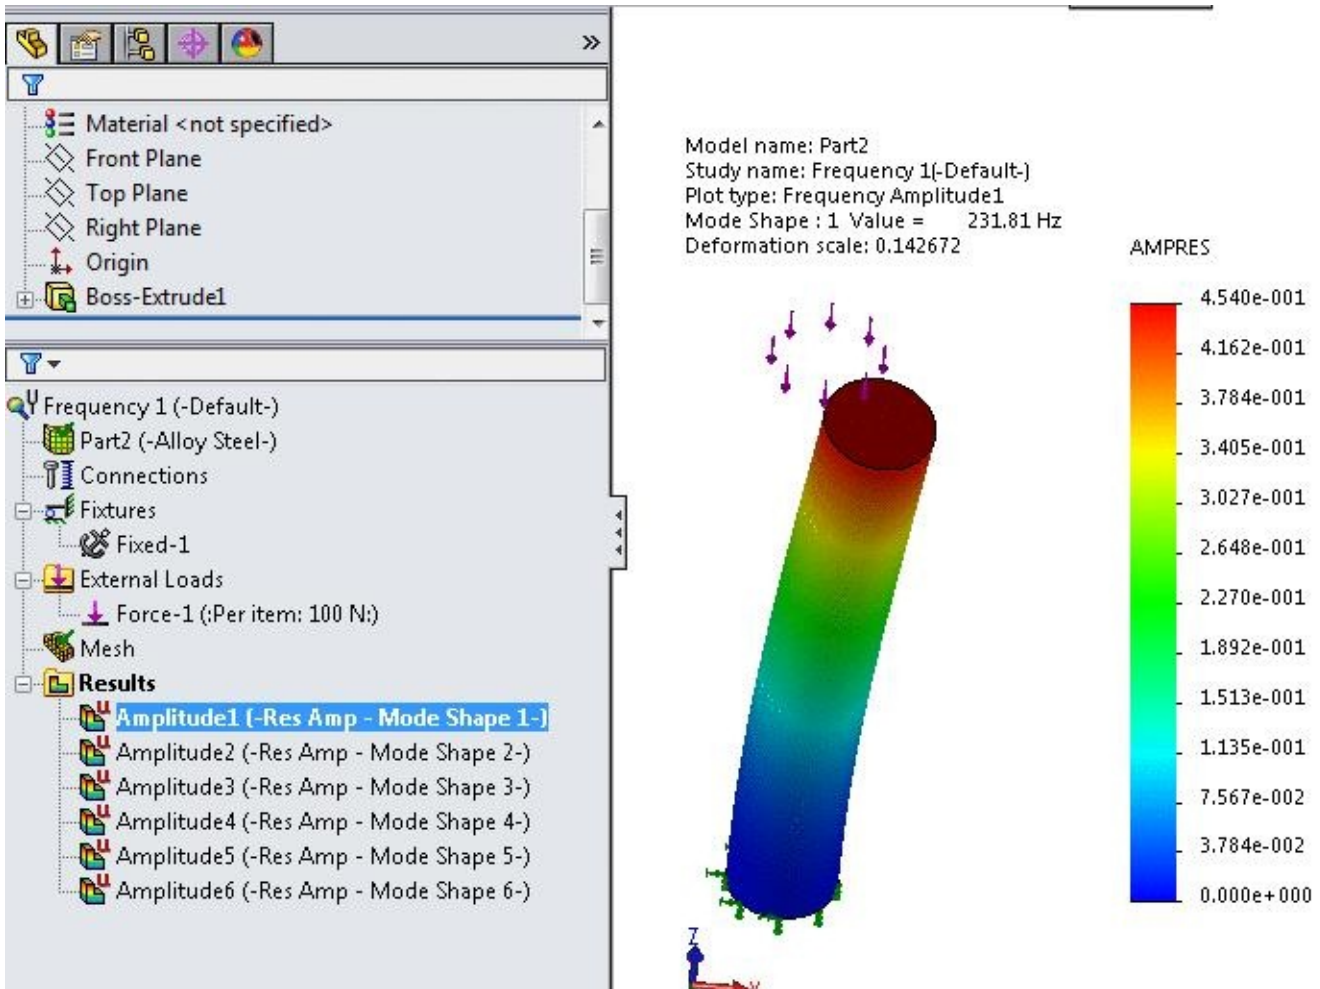

Figure-6. Result of Frequency analysis
- After the process is complete, the results will be displayed; refer to Figure-6.